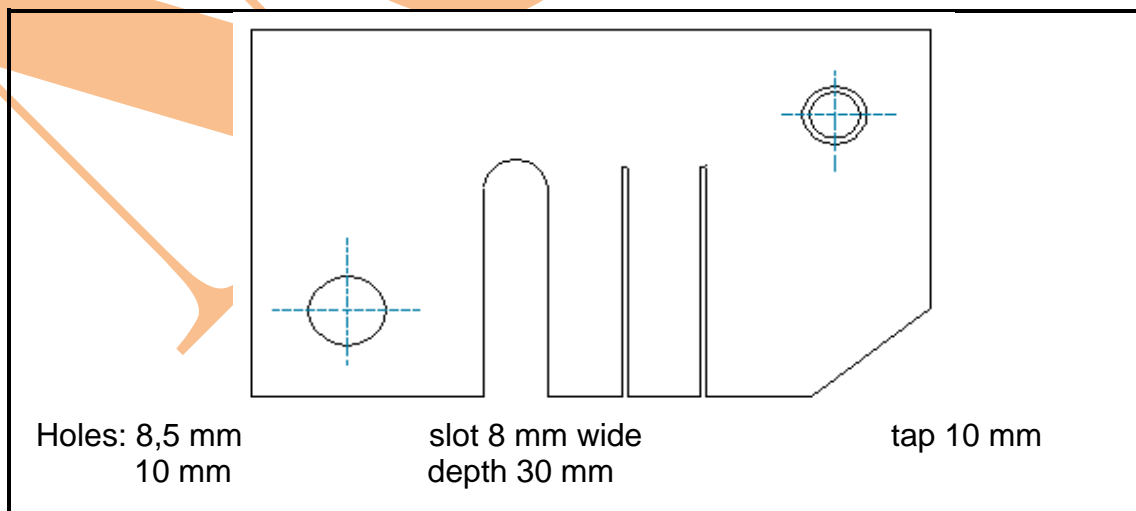

FIGURE 3
4.2 Study FIGURE 3 of the template below with the dimensions of 50 x 80 x 5 mm mild steel material.